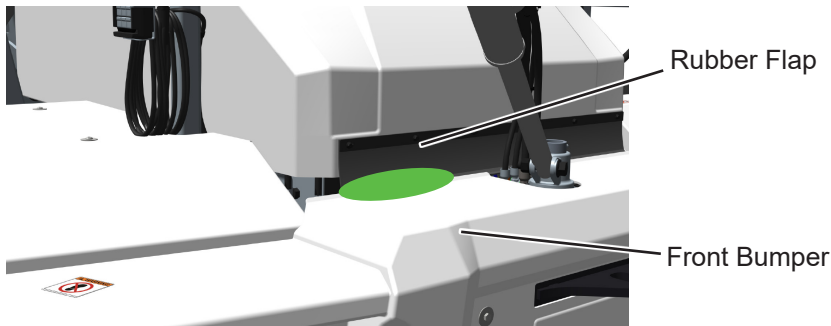

Figure 8. Cab Nose Rubber Flap
12. Slide deflector bracket (A001J457) under the cab nose rubber flap near the right-hand frame rail, then rotate deflector bracket into position between frame rail and cab. See Figure 8.